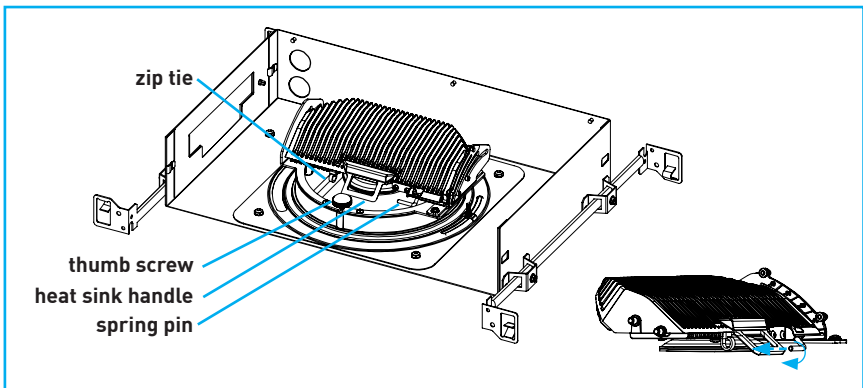

Fig.33
Hot-aimable tilt and rotation adjustment is accessed by removing fixture's baffle, revealing adjustment mechanisms "Fig.33".
**Tilt:** Pull on spring pin towards center of housing aperture and rotate down to lock pin in tilting position. Use heat sink handle, or pin bracket on high flux fixtures to adjust angle. Rotate spring pin up and release to reengage locking mechanism "Fig.33".
**Rotation:** Locate thumb screw and loosen by turning counter-clockwise. Grasp heat sink handle to rotate assembly. Turn thumb screw clockwise to secure "Fig.33".